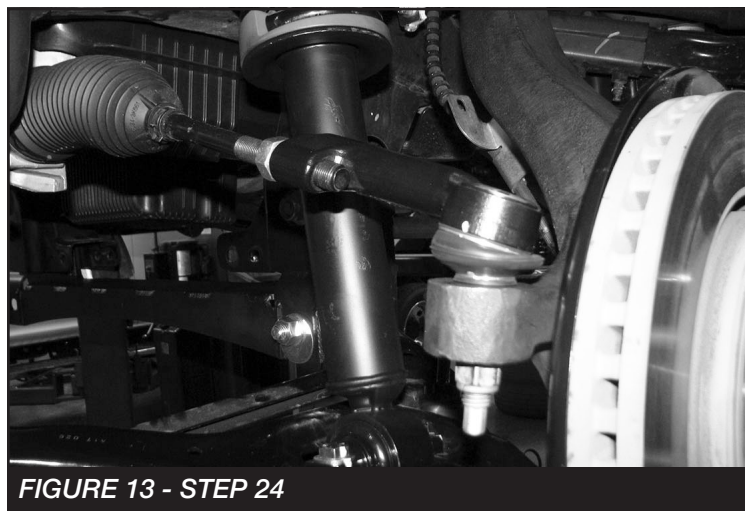

FIGURE 13 - STEP 24
24. Install the tie rod end into the new Fabtech spindle. Torque to 70 ft lbs. **SEE FIGURE 13**